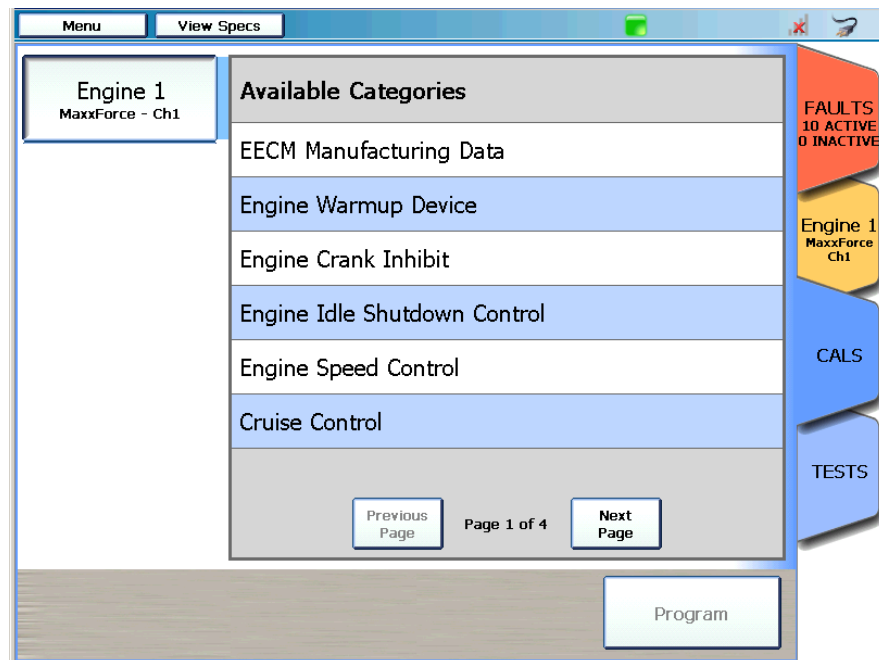

Figure 4.23 Available Categories Screen
- 6 Touch the **Categories** button to return to the Available Categories screen (Figure 4.23).
- Touch the **Categories** button to return to the Available Categories screen (Figure 4.23).